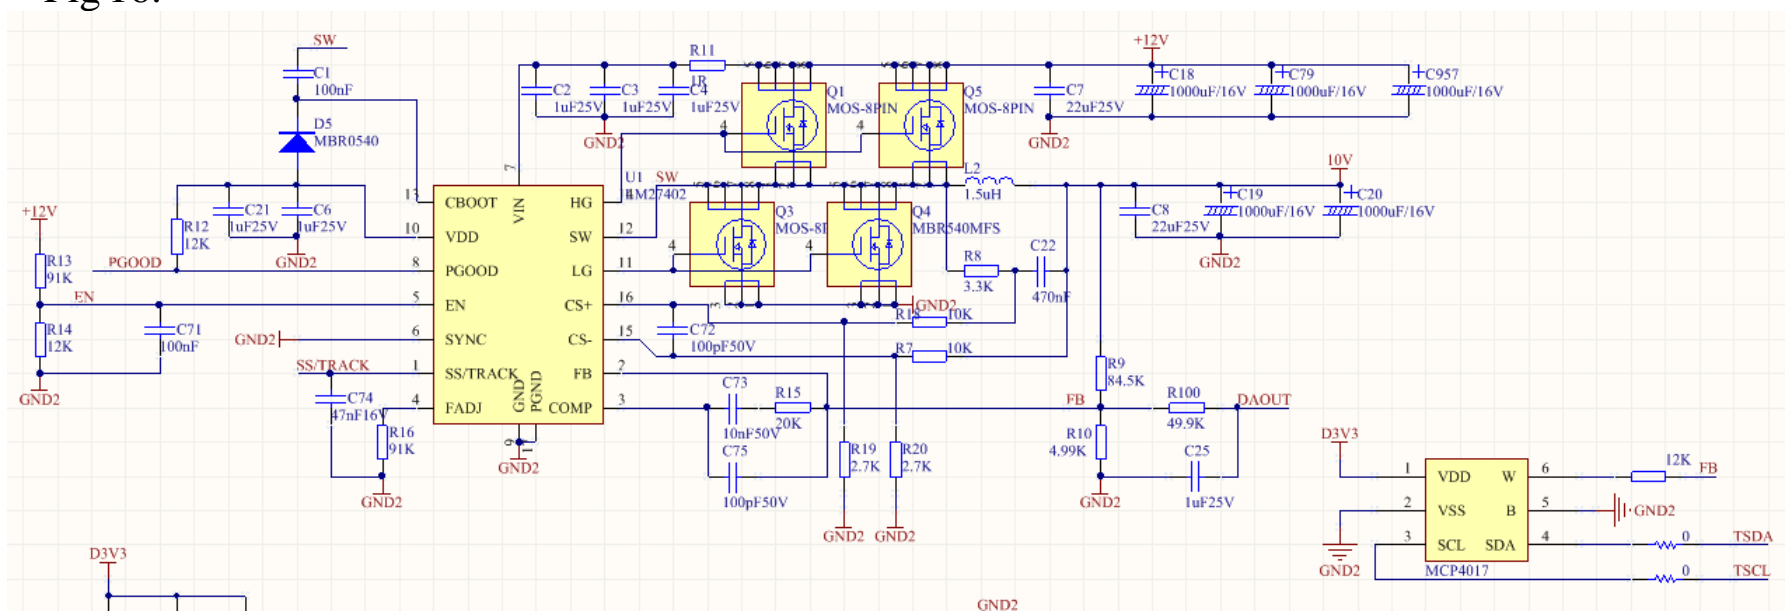
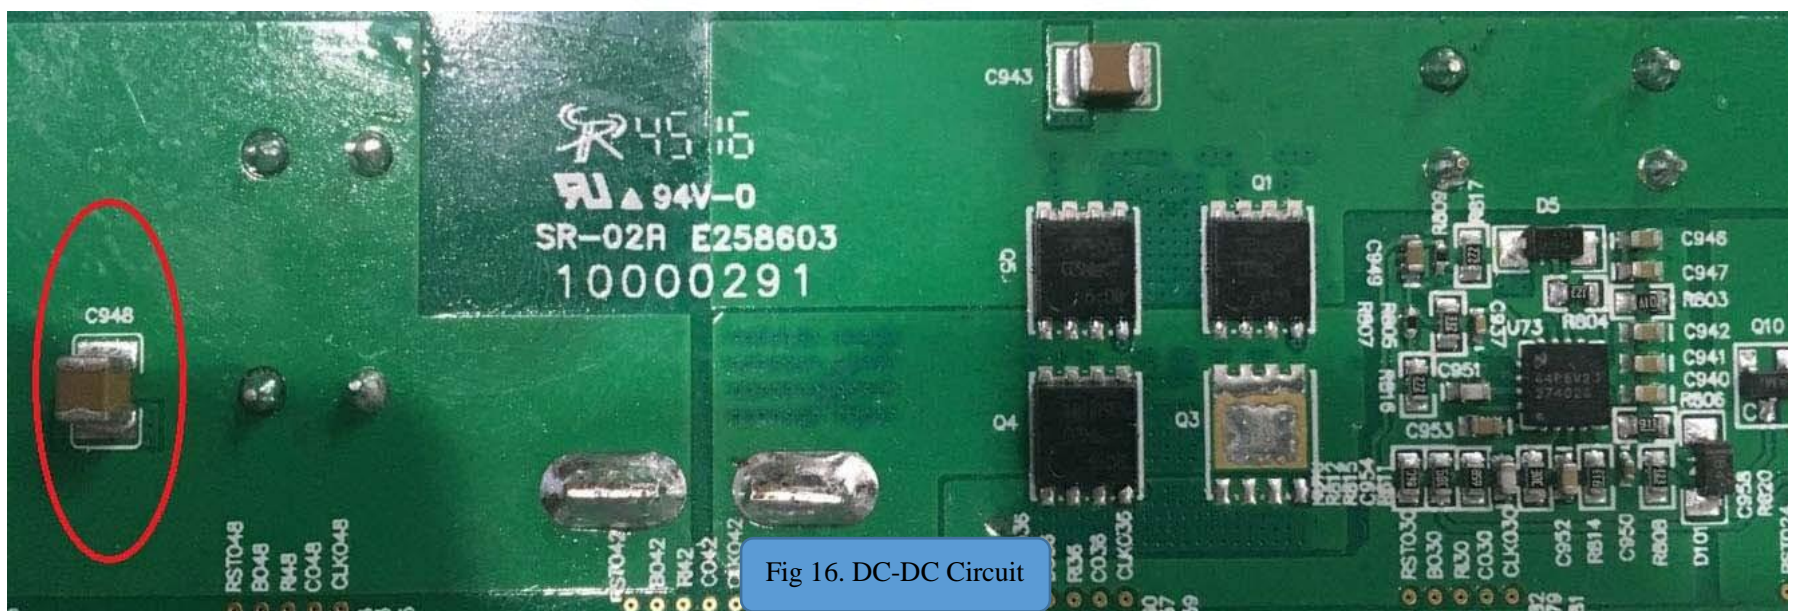

Fig 15. DC-DC Schematic Diagram
Fig 16. DC-DC Circuit
6. DC-DC Circuit: Composed of LM27402SQ and CMOS tube TPHP9003NL. See below Fig 15 and Fig 16: